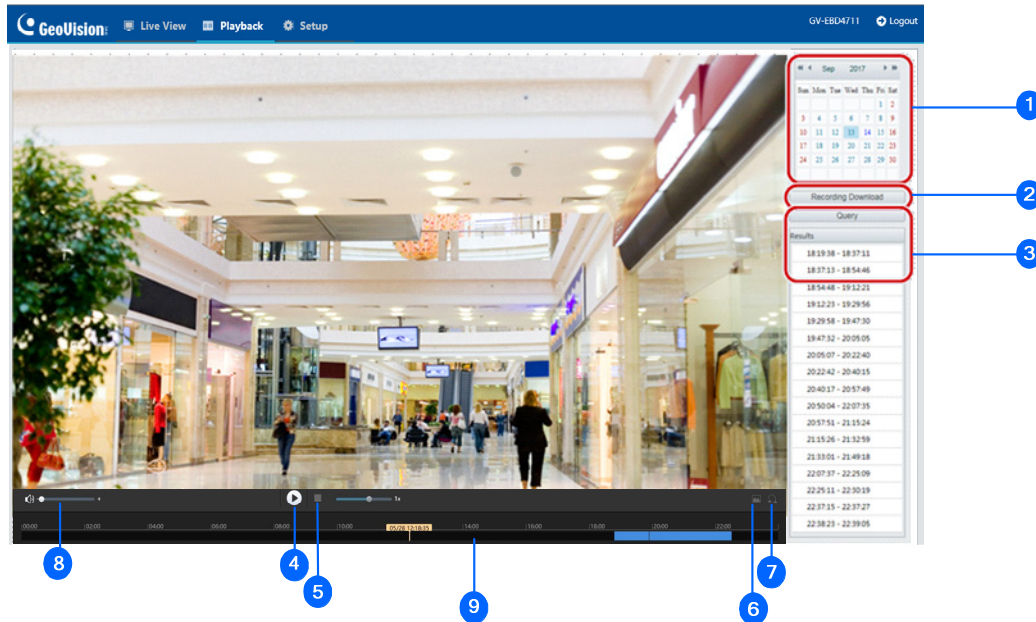

Figure 2-14
1. Click **Recording Download** (No. 2, Figure 2-14) on the right of the Playback window.